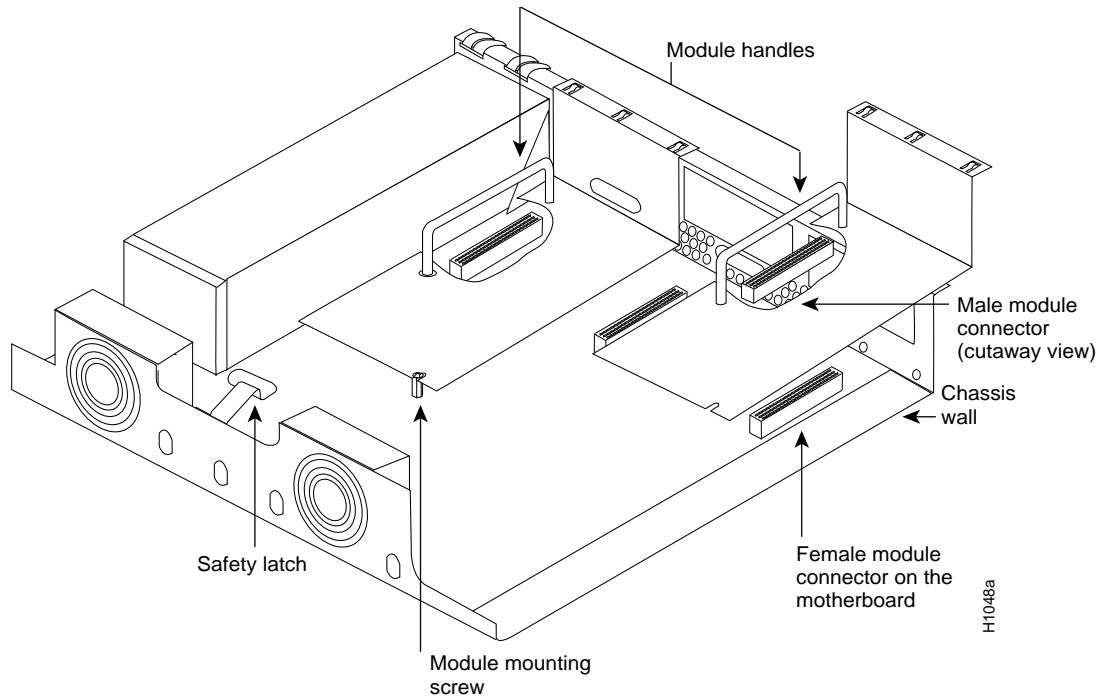

Figure 4 Network Processor Module Locations
Step 2 To lift the module out of its connector after removing the mounting screws, grasp the network processor module handle and pull straight up. (See Figure 4.)